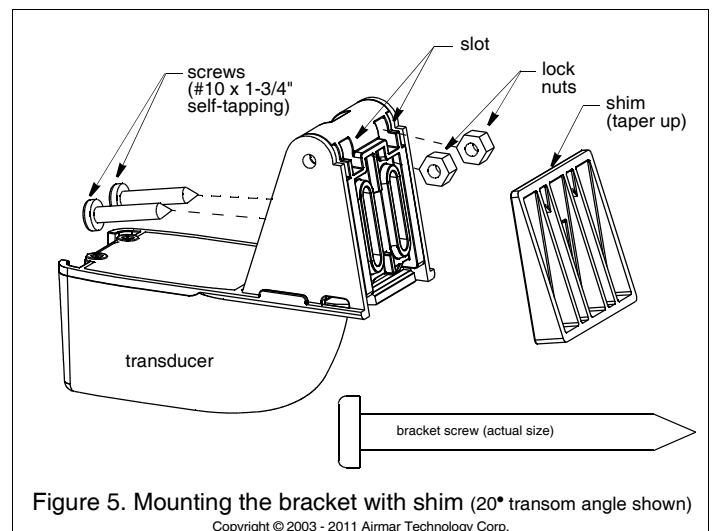

Figure 5. Mounting the bracket with shim (20° transom angle shown)
- **Stepped transom and jet boats (3° transom angle)**—Use the shim with the taper *down*. Place the nuts in the slots in the back of the bracket (see Figure 5). Snap the shim into place.
- **Small aluminum and fiberglass boats (20° transom angle)**—Use the shim with the taper *up* (see Figure 5). Place the nuts in the slots in the back of the bracket. Snap the shim into place.
1. Insert the two, lock nuts in the slots in the back of the bracket if this has not been done (see Figure 5).
- a. Increase the transducer’s angle in the water. Review “Compensating for Transom Angle—Shim” and see Figure 5.